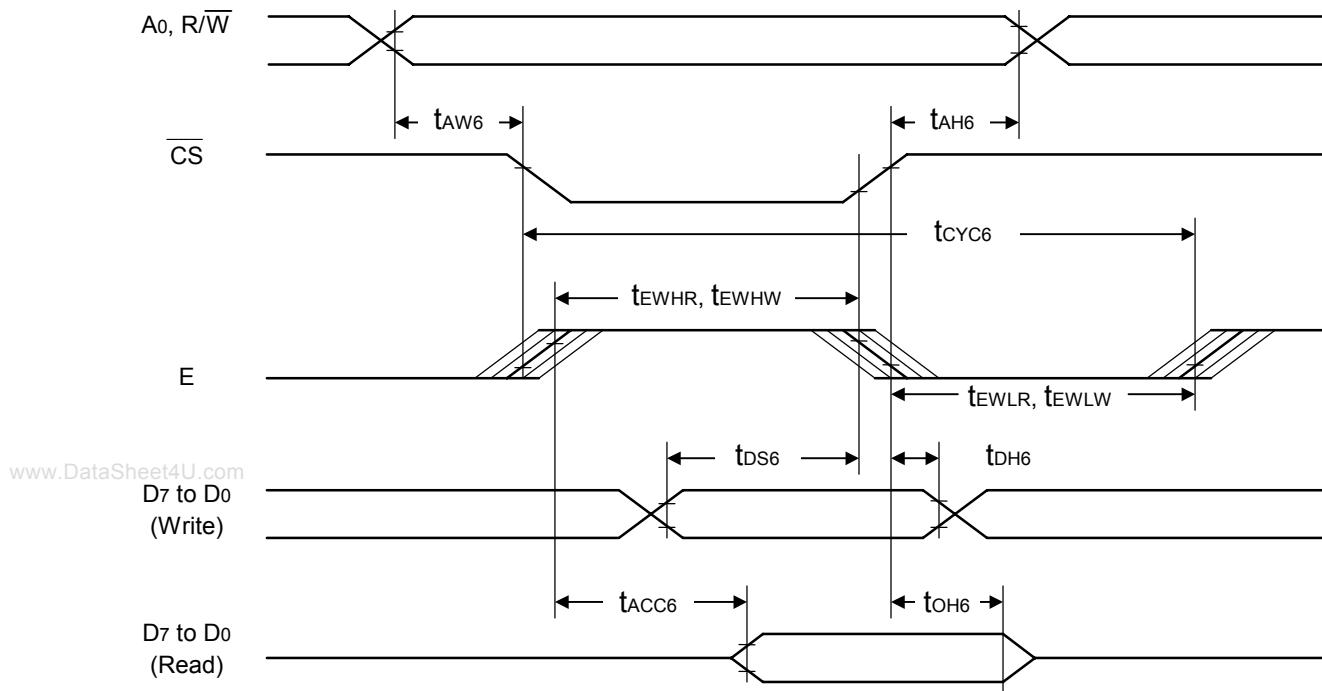

Fig.21
- *2 See Fig.21 for the operating voltage range of VDD and V0 systems. It is applicable when an external power supply is used.
- *3 A0, D0 to D5, D6(SCL), D7(SI), \overline{RD} (E), $\overline{WR}(R/\bar{W})$, \overline{CS} , CL, C86, P/S, \overline{RES} and SEL pins.